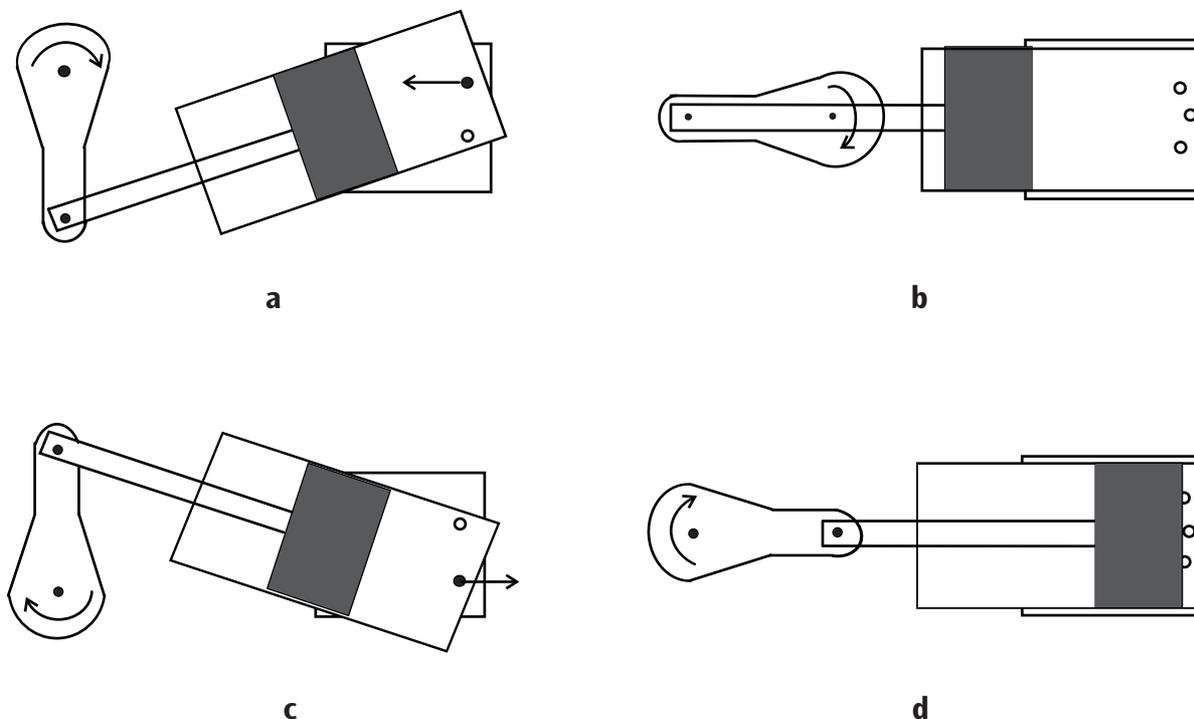

Fig. 1: Work cycle of an oscillating steam engine
Unlike a slide-valve steam-engine, an oscillating steam engine has a cylinder that rotates on a central shaft causing steam inlet and outlet ducts to open and close. Water in the boiler begins to boil, and thus steam is generated. The steam flows via the steam inlet hose ⑫ into the frame then through the steam inlet hole. As soon the opening of the cylinder is fed with fresh steam, steam flows into the cylinder and displaces the piston (Fig. 1, a). When the piston reaches its lowest point, the steam ducts are closed. This slack point is passed thanks to the inertia of a flywheel (Fig 1, b). In the next phase, the piston moves back, opens the steam outlet and pushes out the steam
(Fig. 1, c). The steam flows out via the exhaust steam hose ② and the exhaust steam pipe ⑯. The condensed water that accumulates drips out via the condensation hose ① into the condensation beaker ⑱.
When the piston has reached the dead point at the top, both of the steam ducts are closed again. The flywheel drags the engine past this top slack point, after which steam is once again fed in and the procedure repeats from the start (Fig. 1, d).